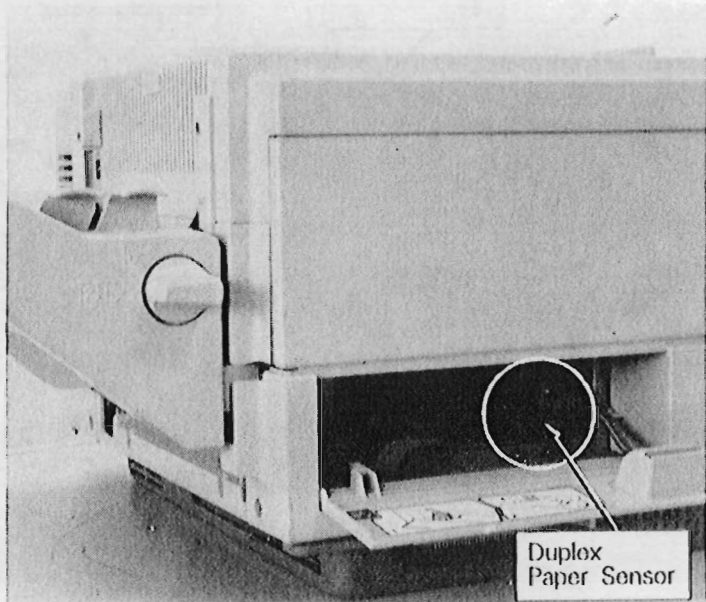

Figure 6-48. Duplex Paper Sensor
2. Remove the (1) screw, and remove the connector cover.
3. Disconnect the connector and its retaining screw and remove the sensor (See Figure 6-48).